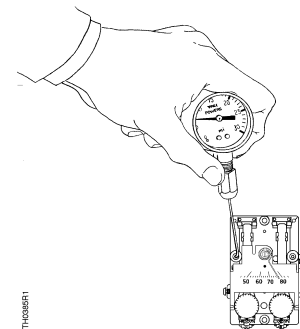

Figure 5. TH192 DN and DNV Output Pressure Test Port.
The output pressure test port (Figure 5) is accessible without removing the thermostat cover through the 8th opening from the top as follows:
3. Moisten the needle and insert the test gauge and needle adapter in the test port (Figure 5). Read the control pressure.
3. Moisten the needle and insert the test gauge and needle adapter in the test port (*Figure 5*). Read the control pressure.
Before troubleshooting the thermostat per Table 1, make certain there is clean dry supply air at 18 psi (124 kPa) minimum. Use the test probe gauge and needle adapter to measure the control pressure at output pressure test port (*Figure 5*). The output pressure test port is accessible without removing the thermostat cover through the 8th opening from the top as follows: